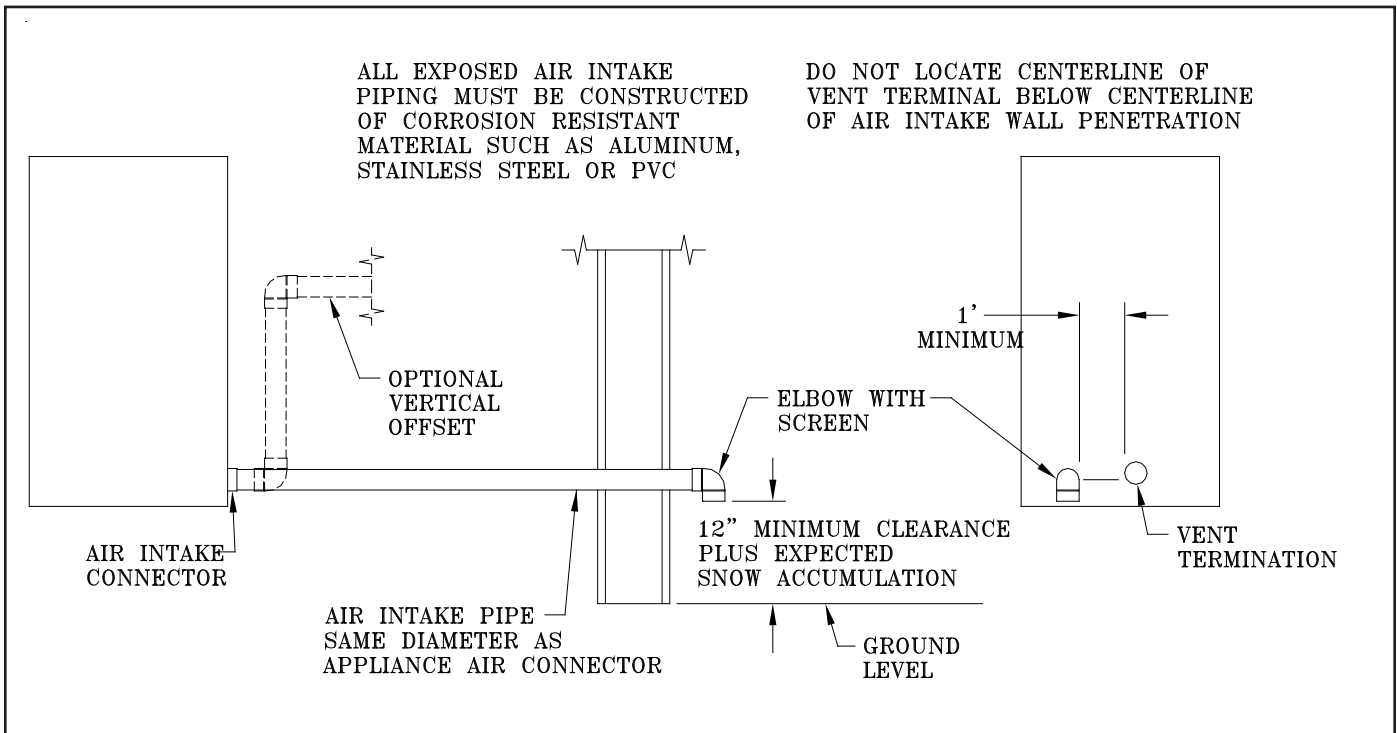

Figure 5: Horizontal Air Intake Piping
B. COMBUSTION AIR - See Figures 5 and 6
4. The maximum air inlet length is fifty (50) equivalent feet. Air inlet length is equal to the total length of straight pipe plus the equivalent length of fittings. Consult conduit manufacturer for equivalent length of fittings and pipe.